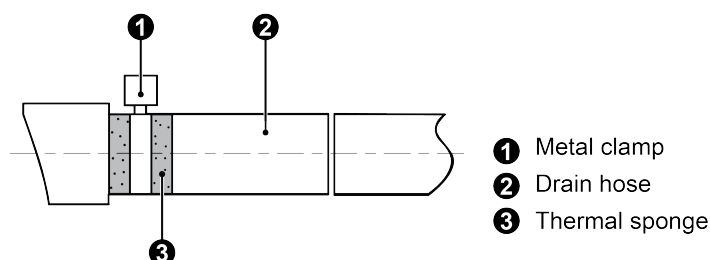

Fig 4.3.2
- (1) Insert the drain hose into the drain hole and tighten it with tapes, as shown in Fig.4.3.2. Model with water pump will be provided with drain hose, while other models please prepare the drain hose by yourself.
- (2) Tighten the pipe clamp, with the distance between screw nut and hose smaller than 4mm.